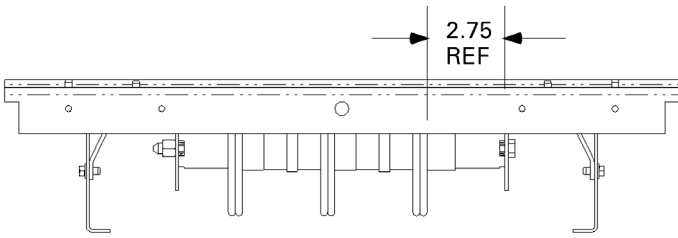

Figure 2. Illustration of the 2.75-inch reference distance.
2. **Locate the side of the interior with a 2.75-inch reference distance.** The circuit breaker straps are mounted on the side of the panel interior bus at which the distance from the vertical bus face to the inner face of the bus-support rail is 2.75 inches, as indicated in Figure 2.